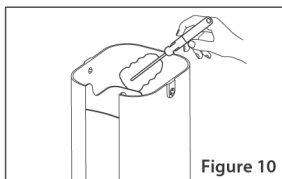

Figure 10
- It is recommended to clean the water tank with a brush once a month to avoid scale formation. Please keep in mind that organic solvents such as alcohol should not be used to clean it. **(Figure 10)**